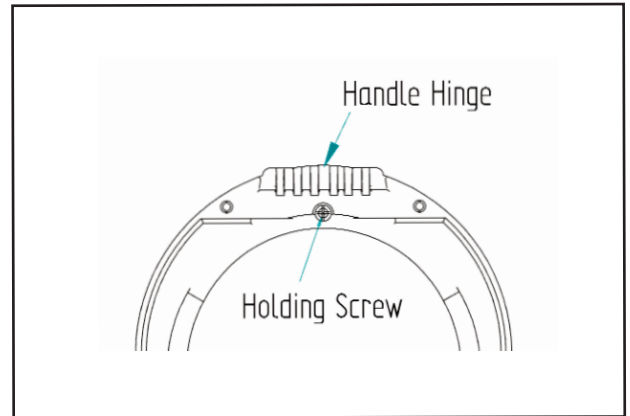

Fig.10
3. Remove holding screws (see fig.10).